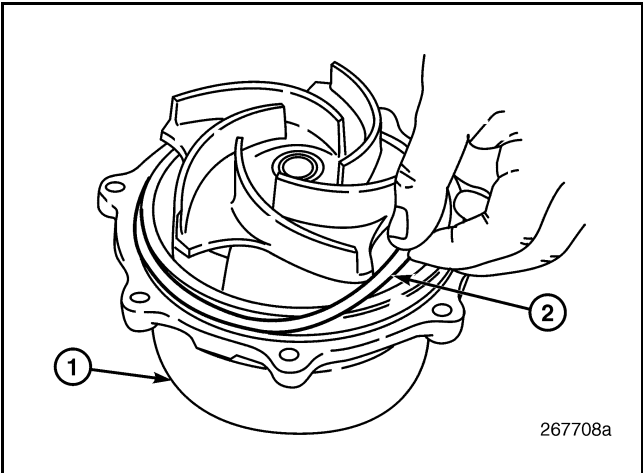

Figure 410 — O-Ring Installation
14. If the pump cartridge assembly has been removed, install a **new** O-ring on the water pump cartridge assembly mounting flange (Figure 410).